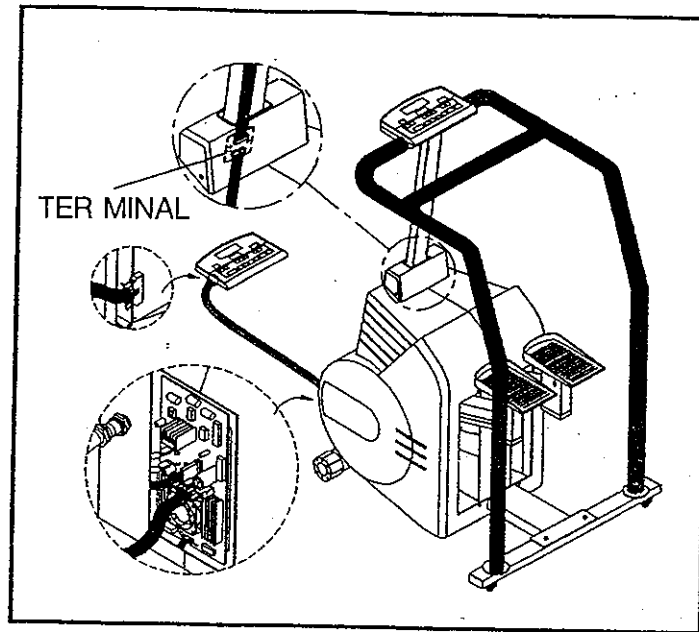

Fig. 1
1. If, after trying all the listed steps as instructed, the unit still responds improperly, take a new electronics package and connect it to a new 16 pin cable, then plug the 16 pin cable into the correct socket on the original drive board (see Fig. 1).